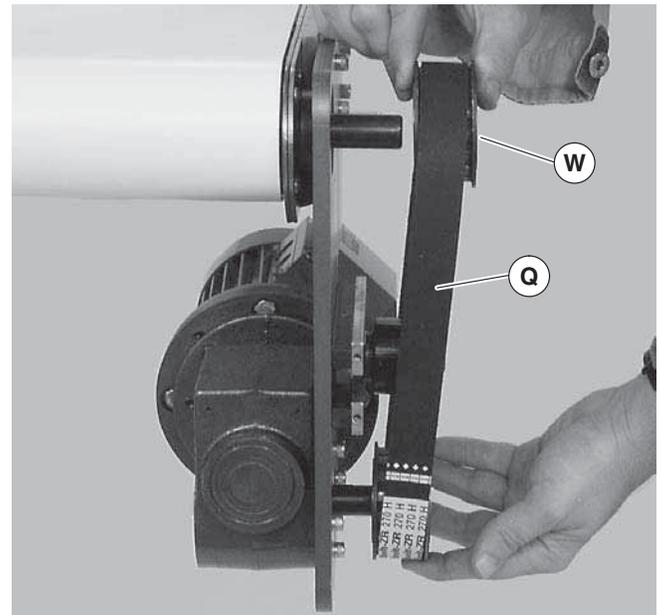

Figure 14
3. Remove timing belt (Figure 14, item Q).
If timing belt does not slide over pulley flange, loosen driven pulley taper-lock screws (Figure 14, item W) and remove pulley with belt (Q). For re-installation, see steps 6 and 7 on beginning on page 8.